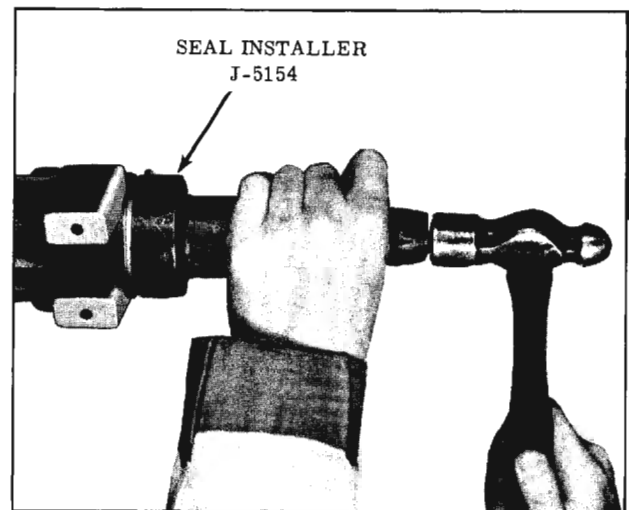

Fig. 11-6 Installing Rear Bearing Retainer Oil Seal
3. Drive seal into the rear bearing retainer using Seal Installing Tool J-5154 until seal is fully seated. (Fig. 11-6)